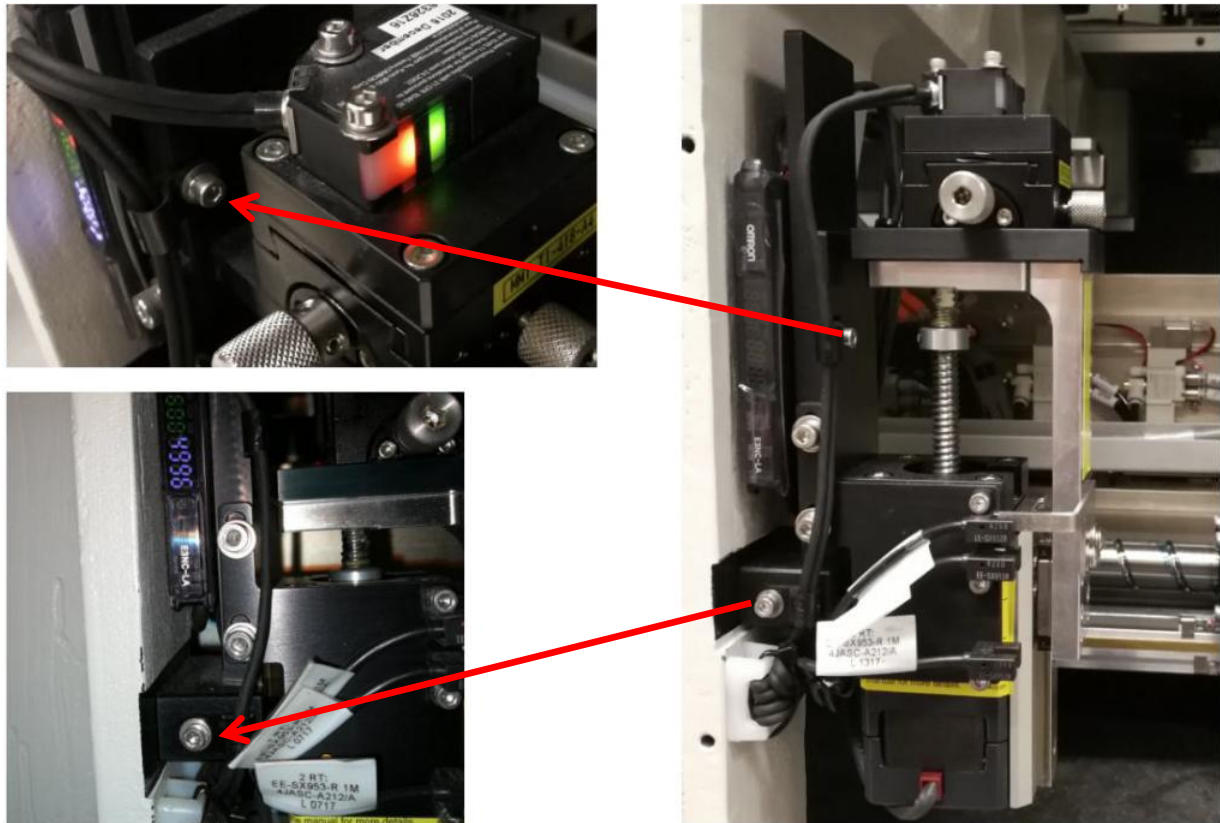

Figure 3
5. Remove 2 x Cable Clamp as below Figure 3